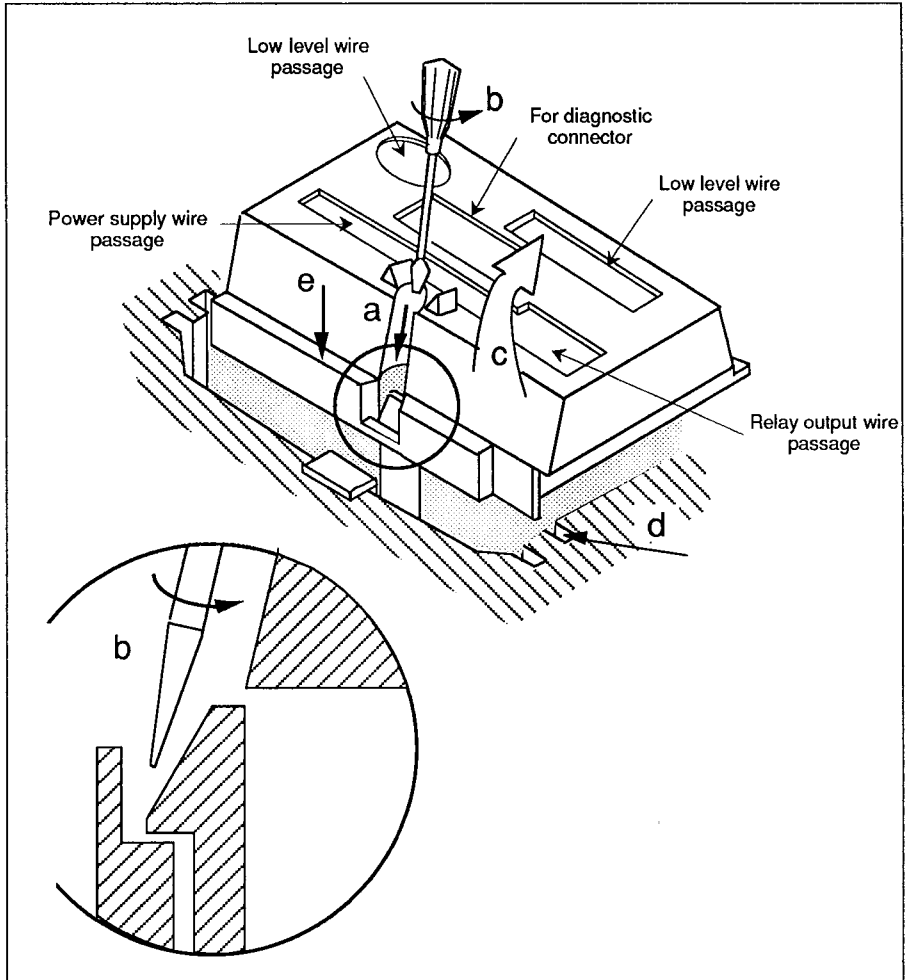

Figure 3-5 Removing the cover
- Insert the screwdriver between the two centring devices located at the rear and push it downwards as far as possible (see figure 3-5).